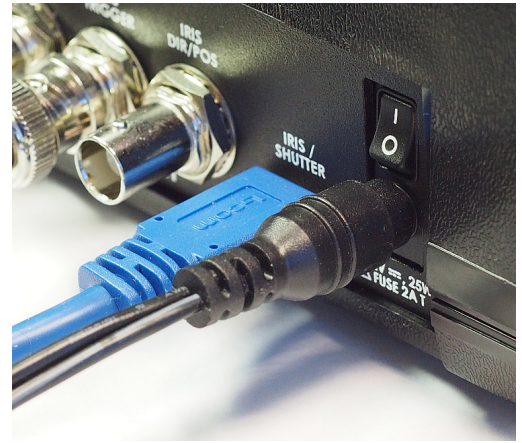
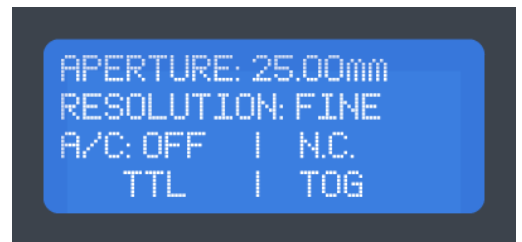

Fig. 6
Fig. 7
5. Power on the AIC10 Iris Controller by switching the rear panel power switch to the “ON” position (|) (Fig. 6). The AIC10’s green “POWER” LED will illuminate, indicating that the device is powered (Fig. 5). The front-panel display will illuminate as well, and will show the Iris Status Screen (Fig. 7). If your AI25 is equipped with the high-speed shutter attachment, the shutter will automatically close upon power up and the amber “SHUTTER SYNC ACTIVE” LED may quickly illuminate.